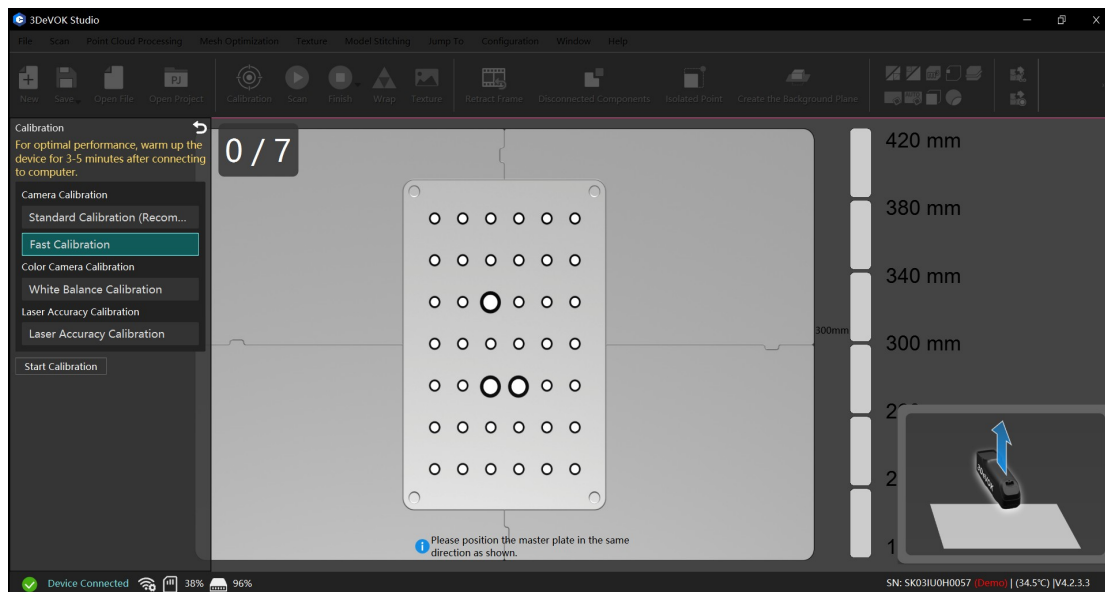

Figure 6-4 Fast Calibration
2. Click **Calibration** for device calibration, and follow the steps shown in Figure 6-4.